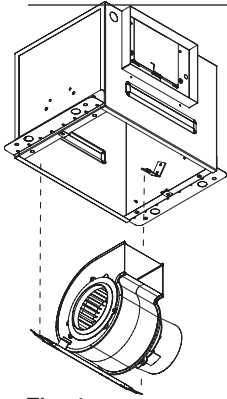

Fig. 1
1. If power assembly (motor, wheel, and scroll) is not installed in housing, insert the electrical plug into fan socket, then slide scroll end of power assembly into fan housing. Attach by using two sheet metal screws provided, shown in Fig. 1.